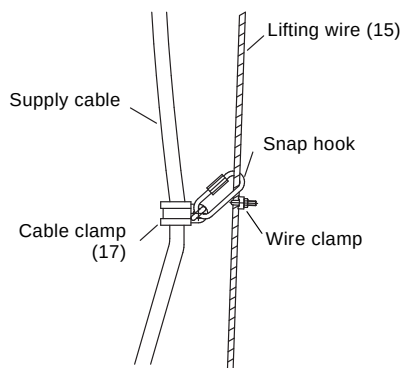

Fig. 22 Attaching the cable to the wire
16. Fix the power supply cable to the lifting wire by means of a cable clamp (pos. 17, fig. 22) approx. 0.8 m above the flowmaker. This will prevent the cable from falling down and becoming entangled in the propeller during operation. Connect the cable clamp to the lifting wire above the wire clamp by means of a snap hook. See fig. 22. Attach the supply cable to the lifting wire by means of cable clamps placed at 1 m intervals.